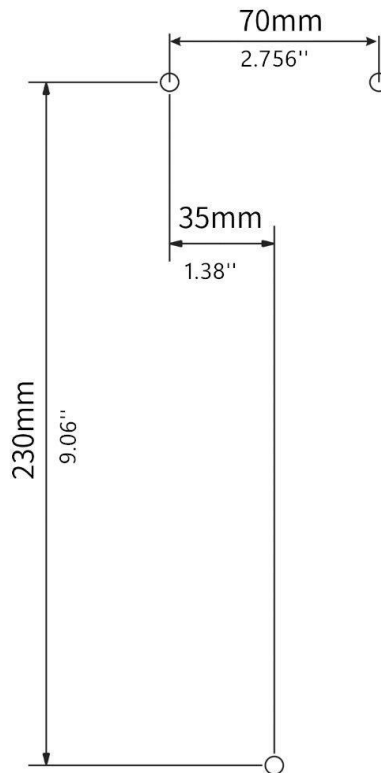

Figure 4.5 Relative Position for Screw Holes on the Wall
- 1) Drill 3 holes with a diameter of **6mm (0.23 inches)** and a depth of at least 50mm (**2 inches**) on the wall for the screws with their relative positions shown in **Figure 4.5**.